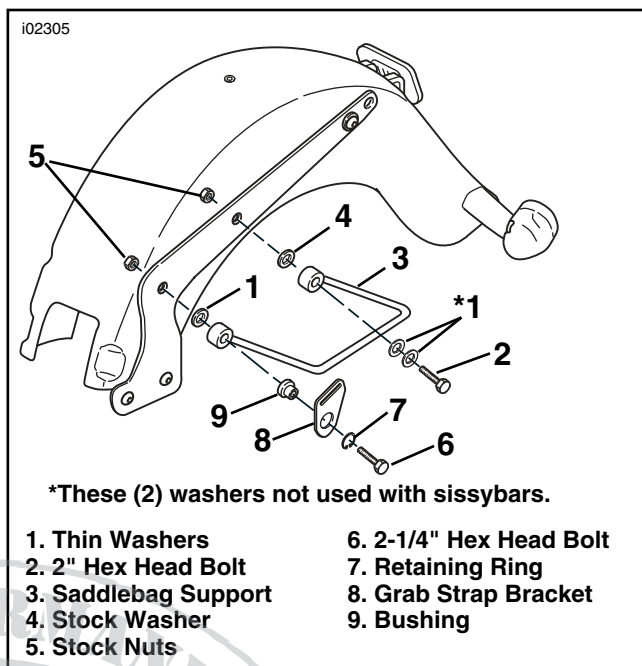

Figure 6. Saddlebag Support Installation (Left Side), 2000 Through 2002 FLSTC and FLSTF
2. See Figure 6. The saddlebag supports (3) are side-specific.